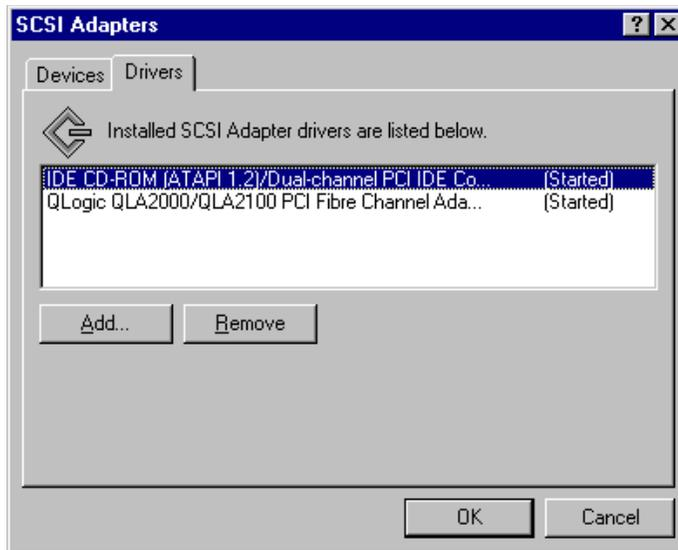

Figure 46. Qlogic device driver configuration
3. Check if the adapter is started and is able to see devices on the SAN as shown in Figure 46.